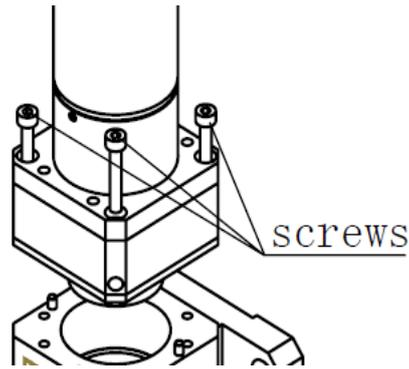

Figure 4. Fiber Orientation
- (1) The red dot on QBH connector should be in alignment with that on the hand wheel. Connect the fiber with the QBH connector. Make sure the red dot on the connector is in alignment with these two spots.
- (2) Rotate the hand wheel clockwise. When you hear 'da', pull the wheel and rotate towards the right again to the correct orientation.
- (3) When the fiber is connected to the head, the red dot on the fiber may be far away from the red dot on the head, which prevent the fiber being input straight. To reorient the connector, you may do as follows. See Figure 4. Loosen the 4 clamping bolts in Figure 4 with a wrench. Rotate the QBH connector. Once the fiber connector is oriented correctly tighten the clamping bolts and the set screw.